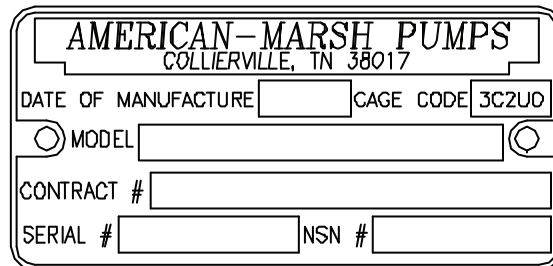

Figure 1
1.6.1 Pump Data Plate (figure 1)